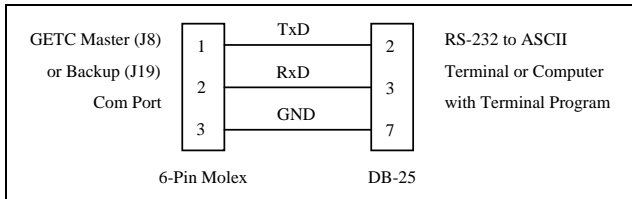

Figure 22 - Terminal-to-GETC Connection Cable
Fabricate a cable with a 25-pin DB-25(M) connector (similar to AMP # 205207) on one end and a 6-pin Molex connector on the other end as shown in Figure 22.